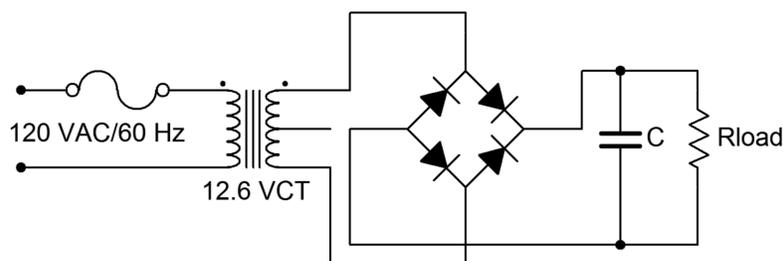

Figure 1
1. First, note that the circuit of Figure 1 is being powered directly from the AC line. Treat it with appropriate caution. It is worth repeating that any circuit should be de-energized when making any changes to it.
2. Consider the circuit of Figure 1 without the capacitor connected. For a positive polarity of secondary voltage, the upper right and lower left diodes will be forward biased and allow current to flow through the load from top to bottom. The other two diodes will be reverse biased. For a negative secondary polarity the opposite occurs. That is, the upper left and lower right pair will be forward biased while the other two are reverse biased. This arrangement will also cause load current to flow through the load from top to bottom, thus effectively flipping the negative polarity portion of the wave.
3. Build the circuit of Figure 1 with  $R_{load} = 1\text{ k}\Omega$  and  $C$  disconnected (open). This represents a very lightly loaded case. Under light loads, the output of the secondary will often be a little higher than the rated potential. Set the oscilloscope input to DC coupled. Measure and record the voltage across the secondary and then across the load. Do **not** use two probes to do this simultaneously as these two measurements do not share a common ground. Doing so will short out a portion of the circuit. Record the results in Table 1 and capture an image of the load voltage display.